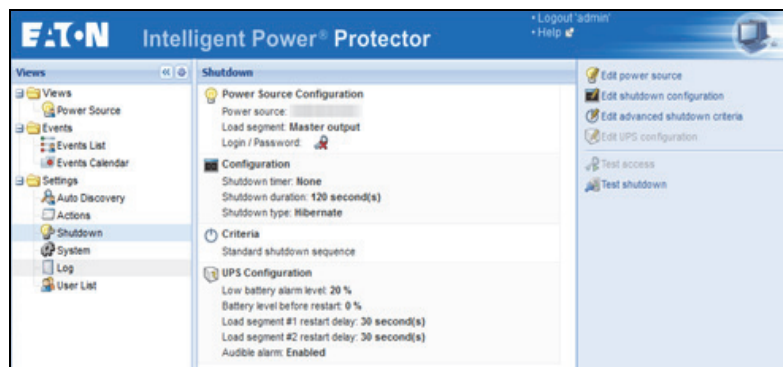

Figure 25. USB/Serial Power Source on Shutdown Page
1. Select the **Settings > Shutdown** menu item. The Shutdown page displays (see Figure 25).